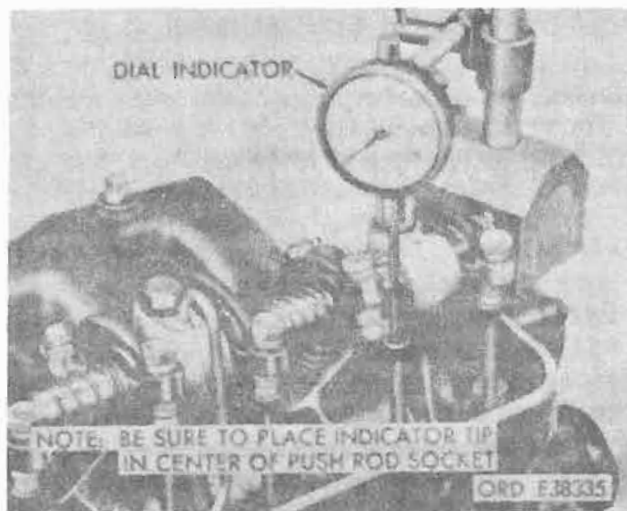

Figure 2-20. Camshaft lobe lift measuring, typical.
b. *Check Valve Timing.* Slide rocker arm to one side and secure in position. Make sure push rod is in tappet socket. Place dial indicator in such a manner as to have actuating tip of indicator in push rod socket and in the same plane as the rod movement (fig. 2-20). Turn crankshaft pulley slowly in direction of rotation until tappet is on base circle of camshaft lobe. At this point, push rod will be in its lowest position. Zero the dial indicator and continue turning crankshaft slowly in the direction of rotation until dial indicator registers specified camshaft lobe lift (table 2-6). Compare crankshaft degrees indicated on dial with specifications (table 2-6). After valve opening is checked, continue to rotate crankshaft to check intake valve closing.
c. *Check Camshaft Lobe Lift.* This procedure is similar to procedure for checking valve timing. Place dial indicator in push rod socket (fig. 2-20). Turn crankshaft pulley slowly in direction of rotation until tappet is on base circle of camshaft lobe. At this point, push rod will be in its lowest position. Set dial indicator on zero. Continue to rotate crankshaft slowly until push rod is in fully raised position. Compare total lift recorded on indicator with specification (table 2-6). Continue to rotate crankshaft until indicator reads zero. This last step is a check on the accuracy of the original indicator reading.